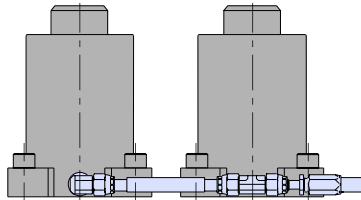

Fig. 3
7. When possible use solid fittings, see Fig. 3. Solid fittings come in predetermined lengths and can replace hose that requires crimping. Solid fittings are ideal for limited space applications and may be used with Large Series Nitrogen Gas Springs: 90.5B Series, 90.9 Series, 90.10 Series, 90.10R Series, and SC Series models 1000 – 18300. Refer to the *90.10 Series Catalog* (#99C102B) for ordering information on solid fittings.